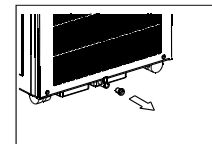

Fig.15
- When you plan to leave this unit unused for a long time, remove the bottom rubber plug from the back hole and attach a section of the continuous drain hose . All the water in the bottom tray would drain outside through the drain hose.(See Fig.15)